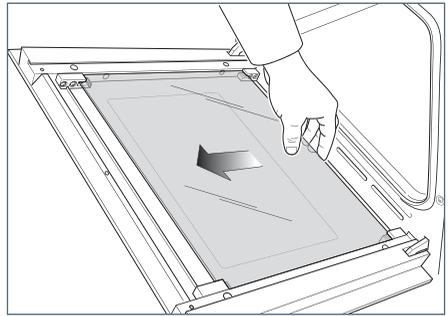

Fig.37b
- Gently unlock the middle pane of glass from the bottom clamps by moving it as in Fig. 37b.